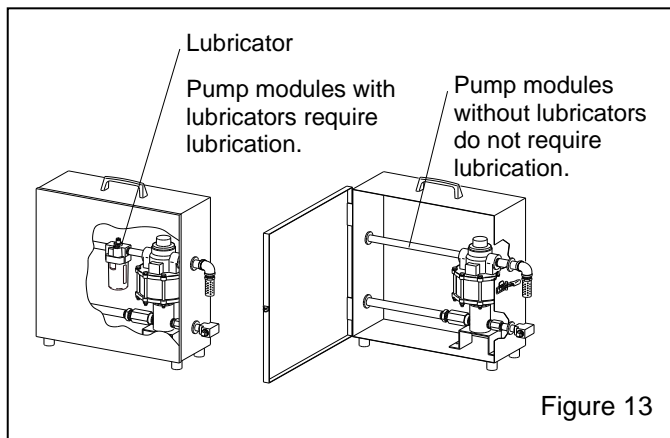

Figure 13
2.6.1 Water pumps used with current injector system are pre-lubricated and do not require additional lubrication. Systems that require lubrication are identified by an inline lubricator located within the pump-module enclosure, as shown in Figure 13. Open the enclosure door to access the lubricator.